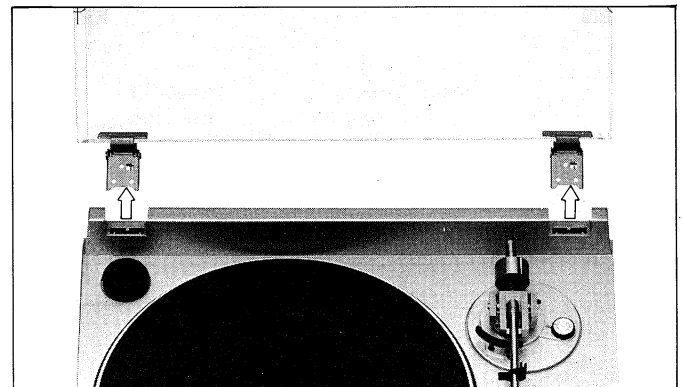

Figure 3-2
1. Open the dust cover and pull it out in the arrow direction shown in Figure 3-2. The hinge is also removable from the cabinet.